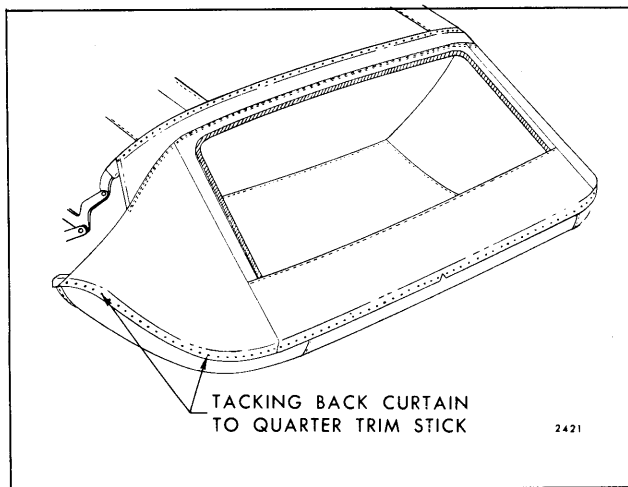

Fig. 13-49—Back Curtain Installation
6. Tack remainder of back curtain material to rear quarter trim stick (Fig. 13-49).